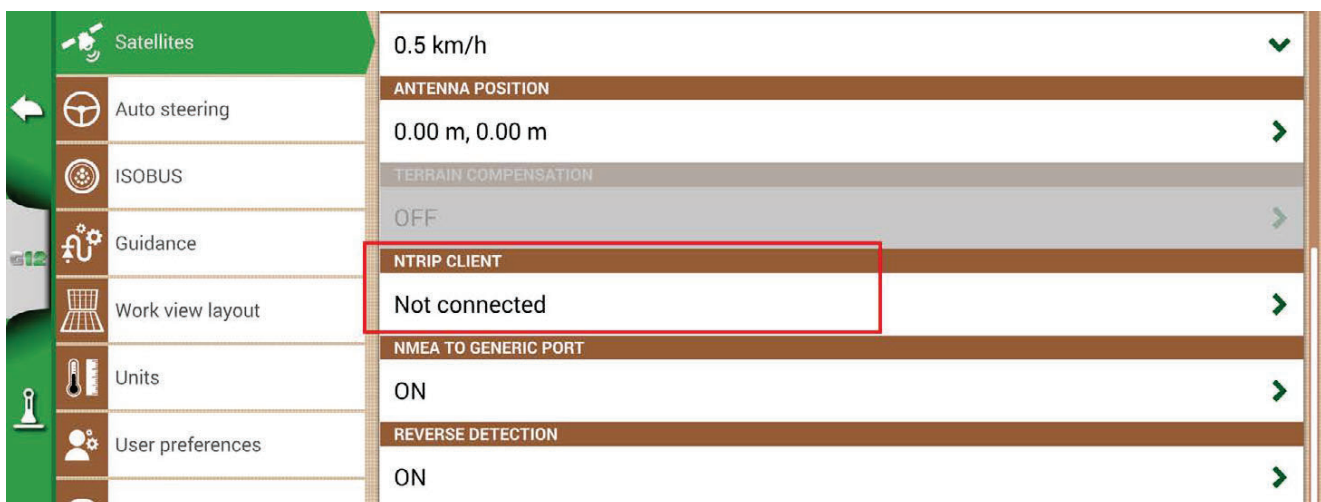

Figure 6.2.2.a - Satellites settings page
- Fill the text fields shown in Figure 6.2.2.b (data provided by your dealer or by your NTRIP provider)